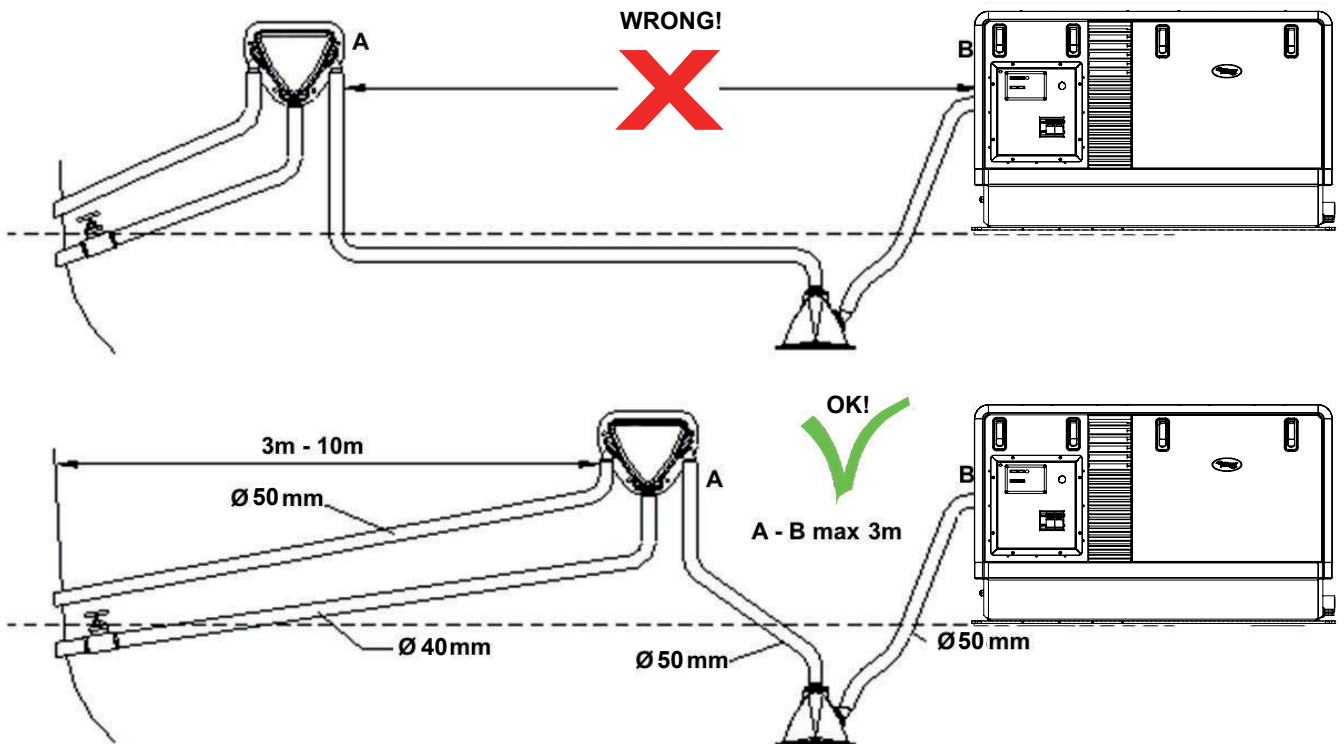

Fig. 10:
The generating set exhaust system must remain completely independent and separate from the exhaust system of any other engine on board. A water lock prevents the generating set from being flooded by cooling water and should be installed as close to the generating set as possible. The lock must be large enough to hold the entire water volume held in the hose from the top of the goose neck to the water lock. The water lock must be installed at the lowest point of the exhaust system (ref. to fig. 10, ref. 1). The exhaust hose must have an inner diameter of 50 mm (1½”). The exhaust system must be installed so that the back pressure inside the exhaust does not exceed 0.07 bar (1psi – 70 cm water column) and total length from the generator to the top of the goose neck or water/separator does not exceed 3m (10 ft.). (Refer to paragraph 5.4.3 of the user’s manual).
If the through-hull exhaust outlet has to be mounted far from the generating set an exhaust/water separator must definitely be installed (Total length of the exhaust piping from generator to top of goose neck (water separator) is more than 3 m.) (ref. to fig. 10).
The sea water from the separator must then run down along the shortest possible path to the through-hull outlet. Only after the exhaust/water separator the exhaust hose may have a length of over 7,5 m (ref. to fig. 10)